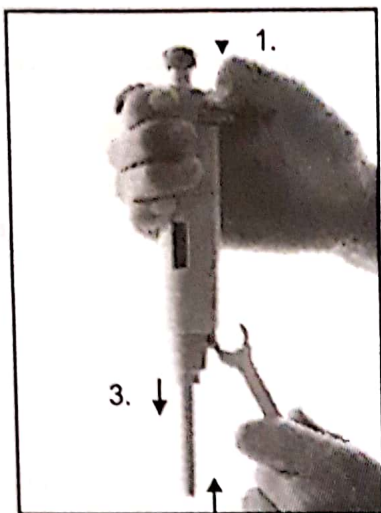

Fig. 8
2. Place the tooth of the opening tool between the tip ejector and the tip ejector collar to release the locking mechanism (Fig. 8).